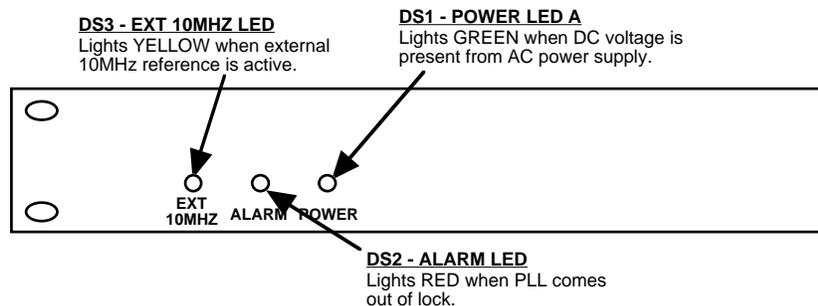

FIGURE 2.2 2116-184 Front Panel Controls and Indicators
Figure 2.2 shows the front panel indicators.
4. Be sure DS1 (green, DC Power) is on and DS2 (red, Alarm) is off (Figure 2.2).
6. If EXT is selected or AUTO is selected and there is a 10MHz, 3 dBm signal at J2, check that DS3 (yellow, Ext 10MHz) is on (Figure 2.2).